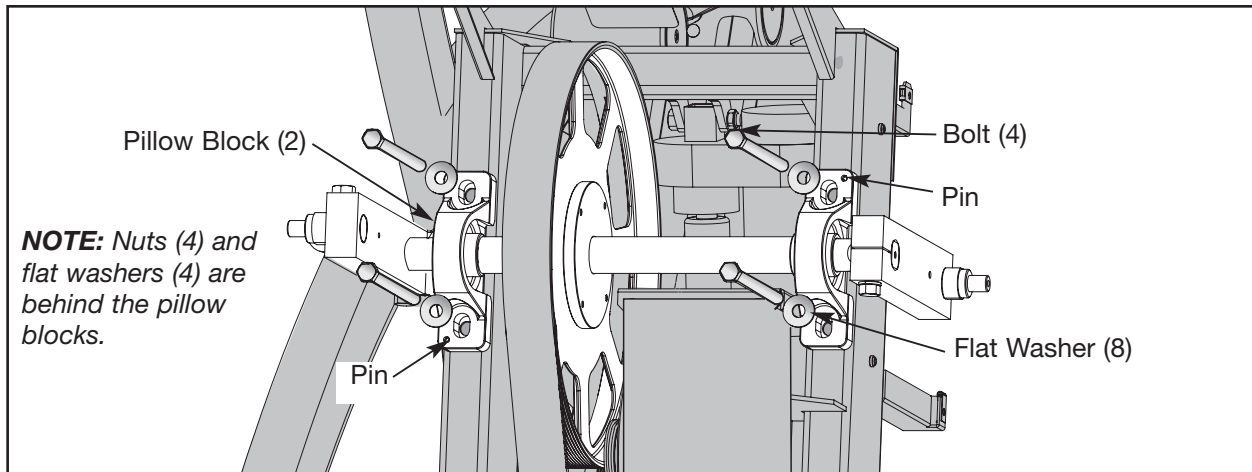

Figure 12
**A.** Using a 9/16" socket wrench and a 9/16" open end wrench, remove the two bolts, four flat washers and two nuts from each of the top pillow blocks. See Figure 12.
- A.** Confirm that a pin (removed in step 9B) protrudes about 1/4" out of the back of each pillow block. **NOTE:** The pins will slide into the frame in the next step. See Figures 12 and 13.
- C.** Using a 9/16" socket wrench and a 9/16" open end wrench, secure the two bolts, four flat washers and two nuts (removed in step 9A) to each pillow block. See Figure 12.
- B. Confirm that the secondary drive belt is straight and centered on the lower pulley. See Figure 12.